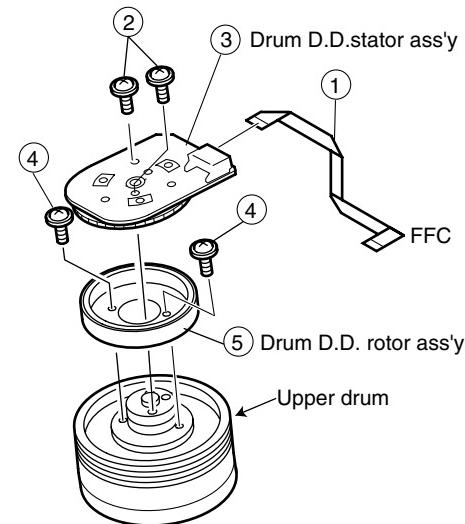

Figure 8-34.
Move the A/C head with the X value adjustment gear driver (JiGDRIVER-6) by the method shown in Figure 8-34, and adjust the A/C head so as to get the maximum ATR signal waveform. (Note: When the A/C head is adjusted, adjust so that the maximum ATR signal waveform is obtained nearest the position of initial setting made in 8-17.)
- ① Fix A/C head arm screws ① and ② tentatively by the method described in "8-17 Replacement 3".
- ② Playback the alignment tape (VROCPGV), and shortcircuit between TP803 and TP802 on VCR Operatin PWB. As a result the auto-tracking is automatically cancelled, so that the X value adjustment mode is set.
- ③ Move the A/C head with the X value adjustment gear driver by the method shown in **Figure 8-34**, and adjust the A/C head so as to get the maximum ATR signal waveform. (Note: At this time adjust so as to get the maximum ATR signal waveform nearest the A/C head position which has been set in case of X value rough adjustment as stated in **8-19, 3-②**.)
- ④ Adjust the playback switching point (Refer to the electric adjustment method.)
- ⑤ Playback the self-picture-recorded tape, and check the flatness of ATR signal waveform and sound.